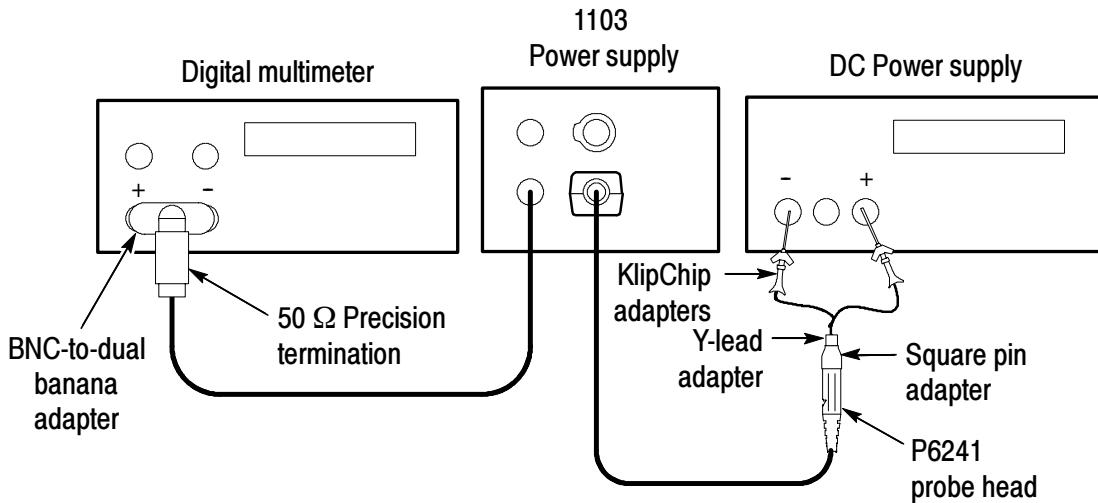

Figure 15: Setup for DC gain accuracy
1. Connect the test equipment as shown in Figure 15 on page 47.